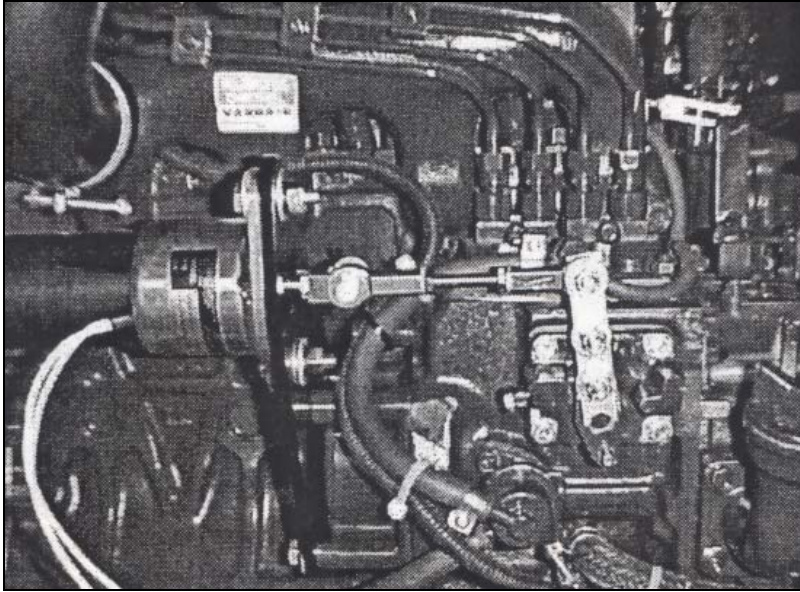

Figure 10. Install Actuator on Engine
2. Use the four M8 x 1.25 x 70mm bolts, four 8mm washers, and four 5/16" lock washers to attach the actuator bracket to the engine (**Figure 10**).